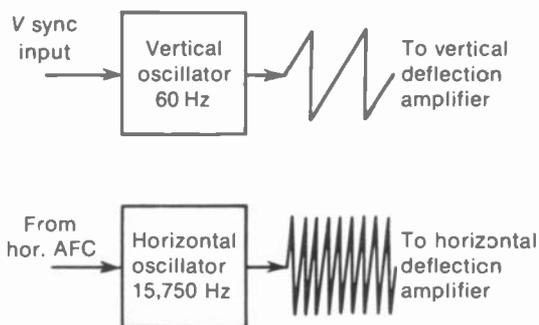
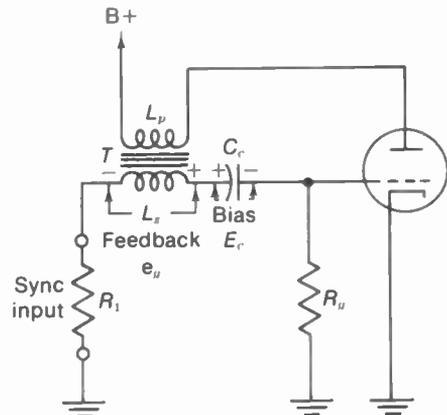
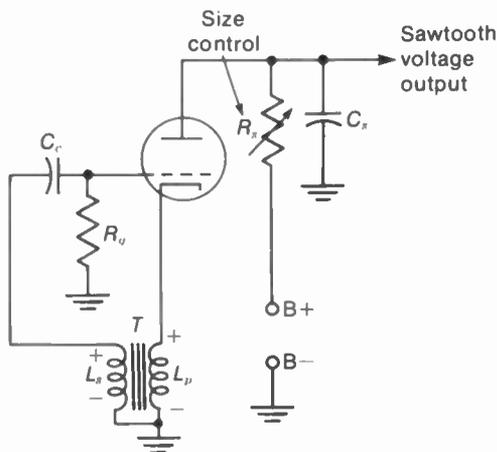

FIGURE 20-1 THE HORIZONTAL AND VERTICAL DEFLECTION OSCILLATORS GENERATE SAWTOOTH VOLTAGE FOR THE SCANNING CIRCUITS.
FIGURE 20-7 BLOCKING OSCILLATOR CIRCUIT.
FIGURE 20-12 BLOCKING OSCILLATOR CIRCUIT WITH CATHODE FEEDBACK. POLARITIES SHOWN FOR INCREASING CATHODE CURRENT.
The scanning of the electron beam in the picture tube is made possible by the deflection oscillator stages in the receiver. As illustrated in Fig. 20-1, the deflection voltage generated by the vertical oscillator at 60 Hz\* is coupled to the vertical deflection amplifier. This output stage supplies the amount of current needed for the vertical scanning coils in the deflection yoke mounted on the neck of the picture tube. Similarly, the horizontal oscillator produces the deflection voltage at 15,750 Hz needed for the horizontal output stage. The two types of oscillator circuits generally used are the blocking oscillator (Fig. 20-7) and the multivibrator (Fig. 20-18). These are free-running oscillators, which operate with or without sync input. However, the sync locks the oscillator into the correct frequency. The advantage of using the vertical and horizontal oscillators, instead of driving the deflection circuits directly with sync voltage, is that the raster is still produced between stations when the receiver has no signal. More details are described in the following topics:
**Blocking oscillator circuit.** Essentially Fig. 20-7 is a transformer-coupled oscillator with grid-leak bias. The transformer provides grid feedback voltage with the polarity required to reinforce grid signal and start the oscillations. When the oscillator feedback drives the grid positive, grid current flows to develop grid-leak bias. This regenerative circuit could oscillate with continuous sine-wave output at the natural resonant frequency of the transformer, depending on its inductance and stray capacitance. However, several factors enable the oscillator to cut itself off with high negative grid-leak bias. A large amount of feedback is used. Also, the  $R_g C_r$  time constant is made long enough to allow the grid-leak bias to keep the tube cut off for a relatively long time. Finally, the transformer has high internal resistance for low  $Q$ , so that after the first cycle the sine-wave oscillations do not have enough amplitude to overcome the negative bias.
**Cathode feedback.** In Fig. 20-12, the blocking oscillator transformer supplies feedback from cathode to grid. The plate current returns through  $L_p$ , from the ground side to cathode. Note that the voltage polarities shown for increasing cathode current induce positive grid feedback. The sawtooth capacitor  $C_x$  is in the plate circuit without the transformer. While the tube is cut off,  $C_x$  charges through  $R_x$ . Then  $C_x$  discharges through  $L_p$ , and the tube when it conducts at the blocking oscillator frequency.
As shown in Fig. 20-13, this collector-coupled stage is similar to the plate-coupled oscillator in Fig. 20-7. The blocking oscillator transformer can also be emitter-coupled to the base, similar to the cathode coupling in Fig. 20-12.